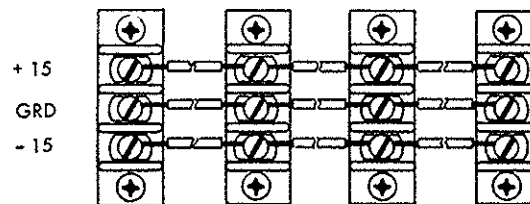

Figure 2-1. Multiunit Power Interconnection.
- h. Connect power to remaining amplifiers as shown in Figure 2-1. Connection consists of parallel wiring as shown in the figure. Standard 22 AWG insulated hookup wire is sufficient for interconnecting the power between the units. Source supply is $\pm 15\text{ V} \pm 5\%$ at 9.5 mA maximum per unit. Each amplifier power input line is diode-protected against accidental polarity reversal. The units are not fused, therefore care should be exercised to avoid exceeding the plus and minus 18 V limit if other than Endevco power supplies are used.